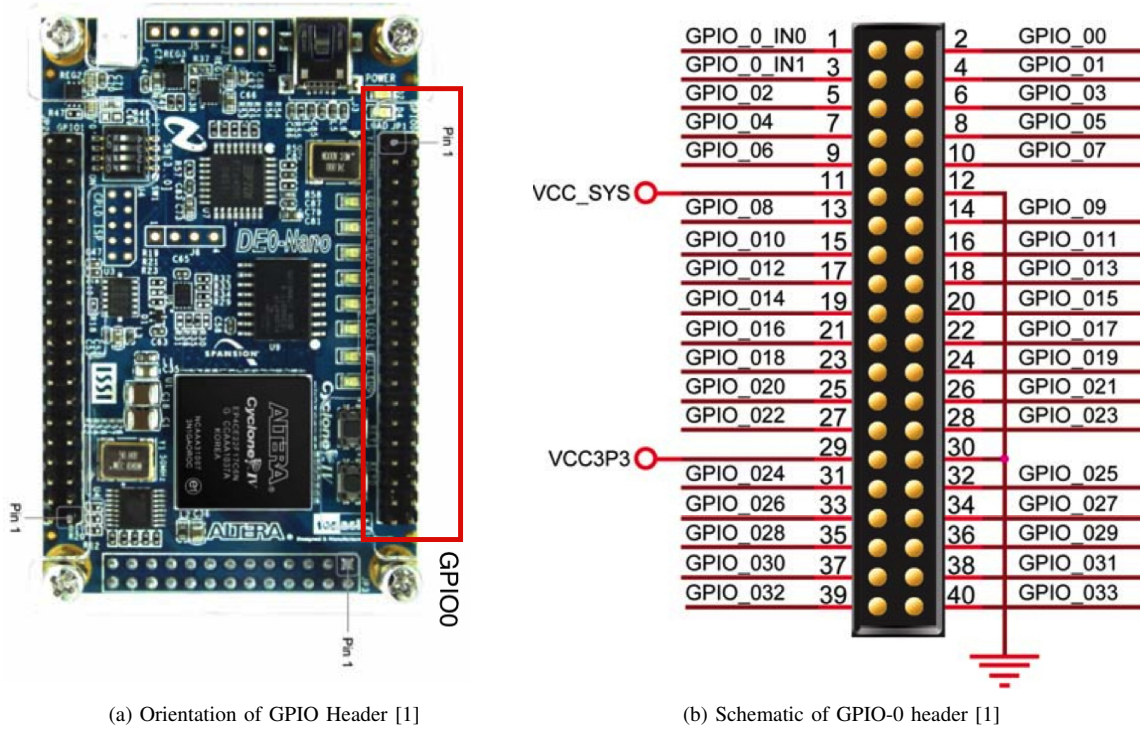

Fig. 5: GPIO0 and it's orientation of the development board
1) *GPIO headers on the DE0-Nano:* Be careful when referencing the pin diagrams in the DE0-Nano user manual. It is easy to read it backwards and that can be a mistake that will cost you hours. It is easiest to match the Nano's orientation with the schematic and count from the nearest edge. Figure 5 shows GPIO 0 next to a schematic of the header. Always check VCC_SYS, VCC3P3, and GND with a multimeter before attaching a circuit you have built. This is the header pin schematic from the DE0-Nano user manual. Inside the verilog code these pins follow a little different nomenclature. What is labeled as GPIO_0_IN[0] in figure 5 is GPIO0_IN[0] and GPIO_00 is GPIO0[0]. Refer to the DE0-Nano user guide for details on the orientation of the headers.